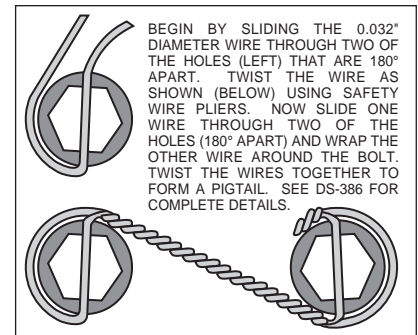

Figure 3. Safety Wire Diagram
- With the larger I.D. side of the rotor (7) facing away from the hat (8), bolt rotor (7) to the hat (8) through the backside of the rotor using washers (9) and bolts (10). Using an alternating sequence, apply red *Loctite*® 271 to the threads and torque bolts to 155 in-lb. For an added measure of security, the bolts may be safety wired using standard 0.032 inch diameter stainless steel safety wire as shown in Figure 3. Please refer to Wilwood’s data sheet DS-386 (available at www.wilwood.com/Pdf/DataSheets/ds386.pdf) for complete safety wire installation instructions.